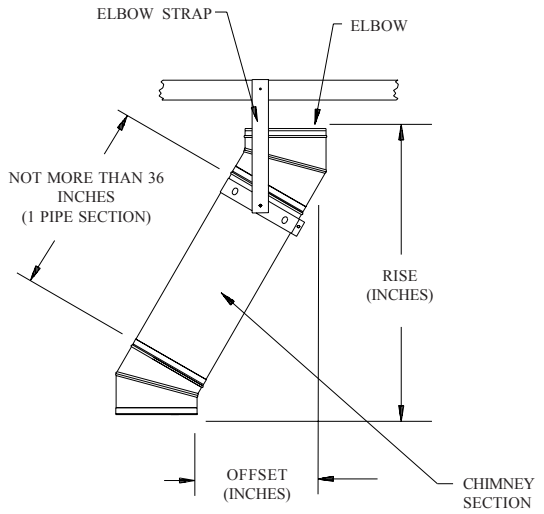

Fig 15
1. **Attach Elbows:** Attach Elbow to Chimney Section or other Elbow by mating the male and female ends with each other and using the (6) sheet metal screws provided. Attach one Elbow to the Chimney Section below, and align it for the offset. Refer to Table 3 to determine the required offset length and attach an appropriate length (or lengths) of Chimney Section(s) above the Elbow. The maximum length of chimney pipe between elbows is not to exceed 36" (maximum of one 36" chimney section). Attach the second Elbow above the Chimney Section to complete the offset (Fig 15).
adjacent joist or rafter and secure it with at least two 8-penny nails or #8, 1-1/2" screws. Do not add more Chimney Sections until the Elbows are supported. Be sure that the chimney remains vertical (Fig 15).